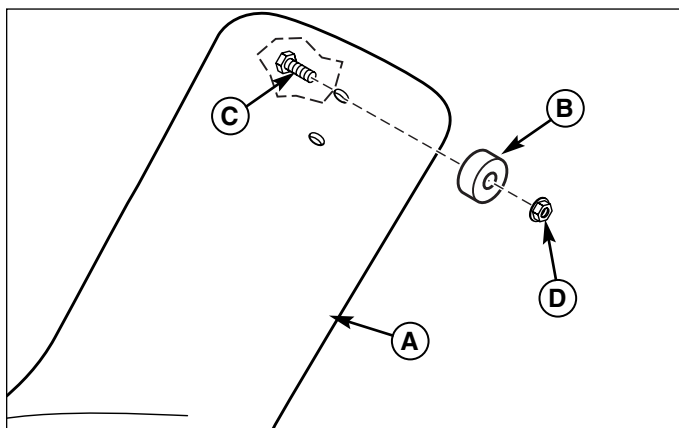

Figure 6. Install Puck to Boot
5. Secure the puck (B, Figure 6) to boot (A) using 5/16-18 x 3/4 capscrew (C) and 5/16-18 locknut (D).